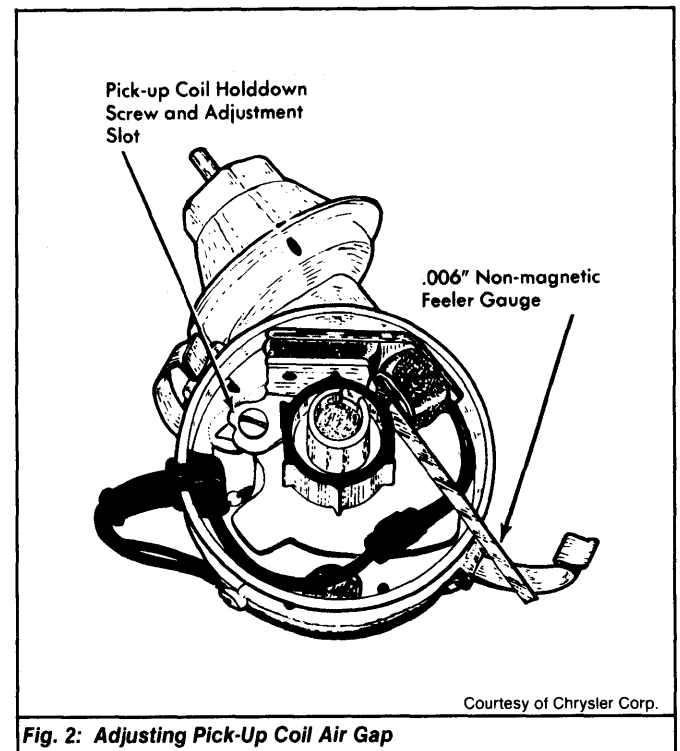

Fig. 2: Adjusting Pick-Up Coil Air Gap
- 1) To set air gap, loosen pick-up hold-down screw and align one reluctor blade with pick-up pole. Install a .006" non-magnetic feeler gauge between reluctor blade and pick-up pole. See Fig. 2.